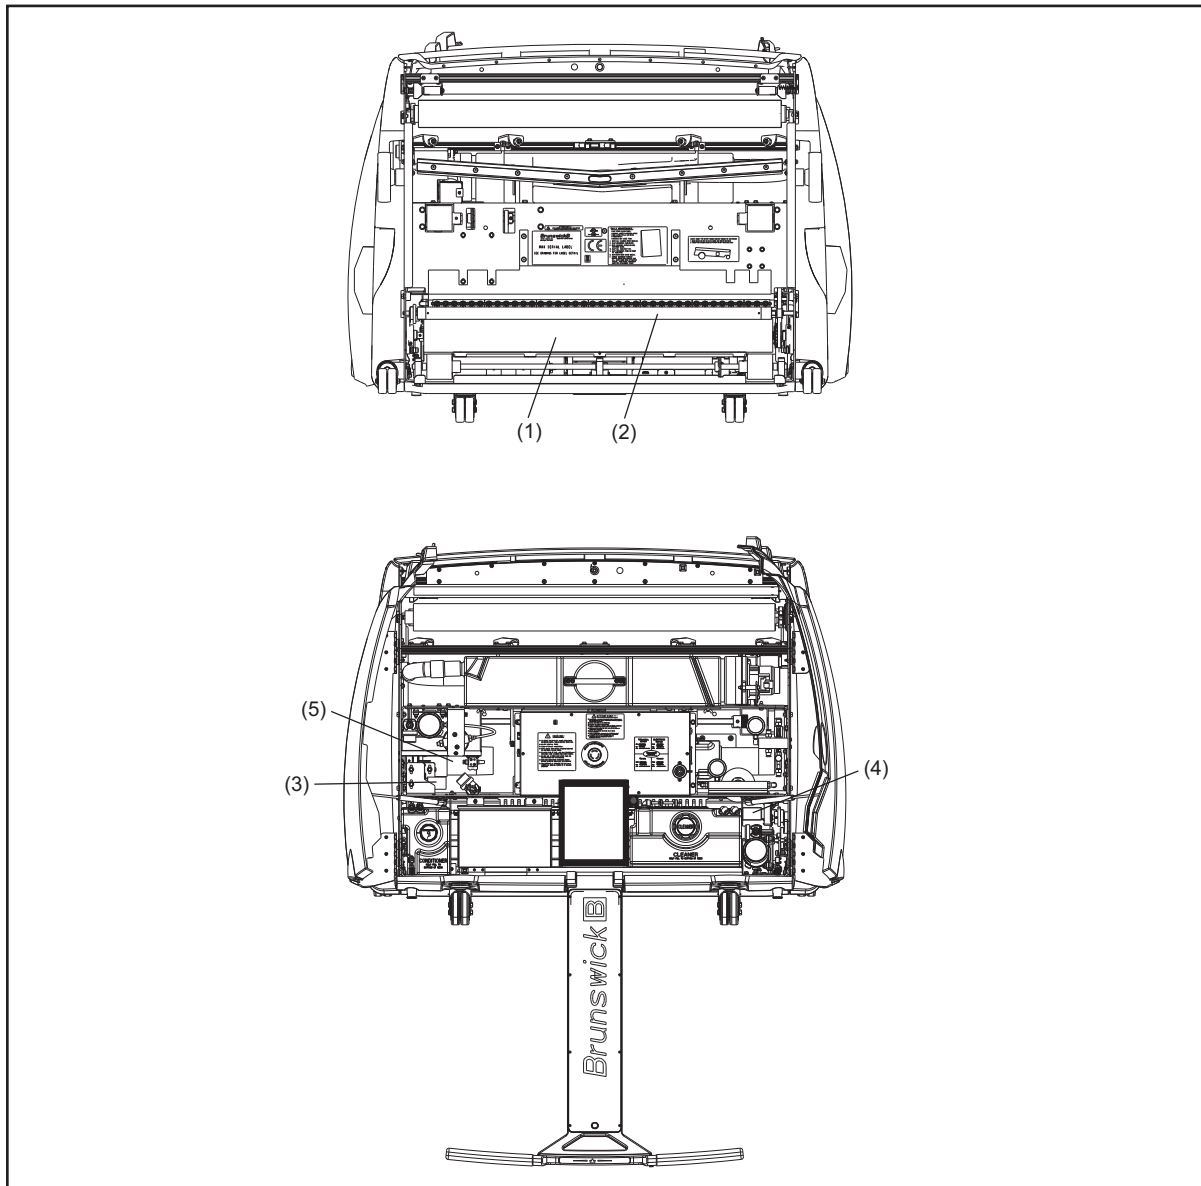

Figure 7-6. Buffing System
1. During the forward travel of the buffing operation, the machine disperses the conditioner on the lane surface and buffs it, then continues its return travel to the foul line. Refer to *Figure 7-6*.